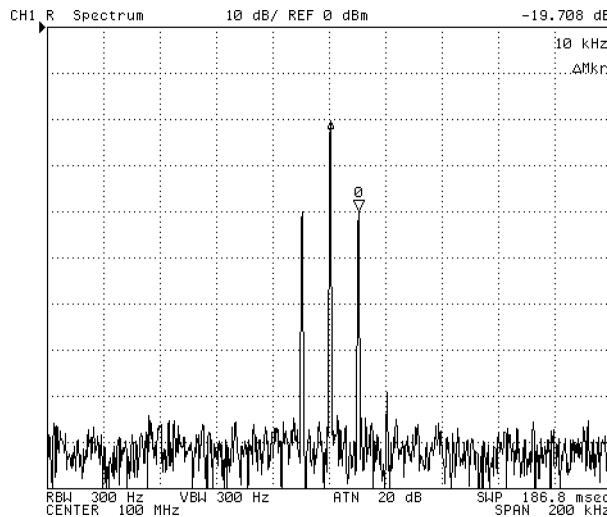

Figure 10-18. Modulating Frequency of AM Signal
4. Press **[Search] SEARCH: PEAK NEXT PEAK** to search for a sideband. The offset value from the carrier is displayed as the marker sweep parameter value shown in Figure 10-18. This value is the modulation frequency.
The Δmarker shows that the sideband amplitude value relative to the carrier is -19.708 dB (see Figure 10-18). The modulation index (m) can be derived from the following equation:
where ΔMkr is the Δ marker value shown in Figure 10-18.